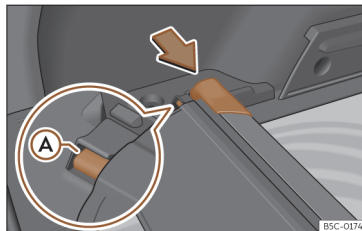

Fig. 186 In the boot: space to store the retractable shelf.
- Press the head of the retractable shelf in the direction of the arrow until it engages in its housing >>> Fig. 186. Make sure that slide ① fits into the corresponding housing.